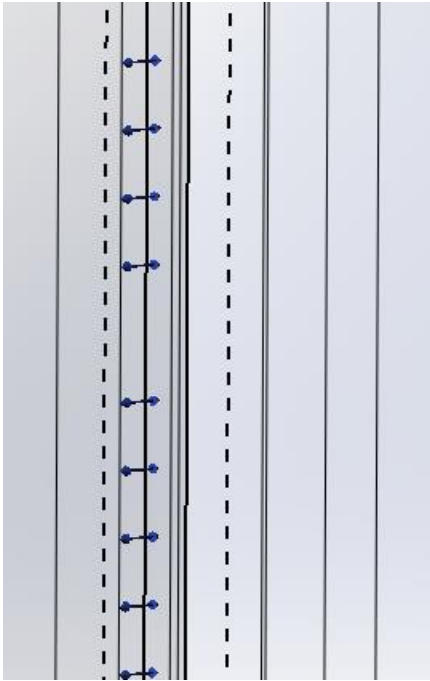

Figure 2.18b) Outlet static pressure boundary condition
18. Red arrows pointing in the flow direction appears indicating the inlet velocity boundary condition, see figure 2.17d). Right click in the graphics window and select **Zoom to Fit**. Right click again in the graphics window and select  **Rotate View** once again to rotate the part so that the inner right surface is visible in the graphics window. Right click and click on  **Select**. Right click on  **Boundary Conditions** in the **Flow Simulation analysis tree** and select **Insert Boundary Condition....** Right click on the outflow boundary surface and select **Select Other**. Select the Face corresponding to the outflow boundary. Click on the **Pressure Openings** button in the **Type** portion of the **Boundary Condition** window and select **Static Pressure**. Click OK  to exit the window. If you zoom in on the outlet boundary you will see blue arrows indicating the static pressure boundary condition, see figure 2.18b).